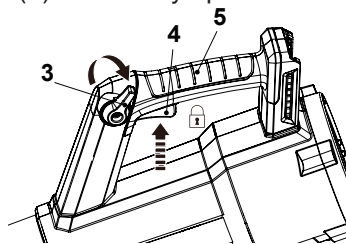

Fig. 6
1. Hold the product with one hand on the handle (5).
2. Turn the locking lever (3) downward and the on/off switch (4) will be automatically depressed in to reach the desired flow speed (Fig. 6).
3. Release the lock lever (3) afterward and the on/off switch (4) is now locked on for continuous use.
4. Turn the locking lever (3) all the way up to switch the product off.